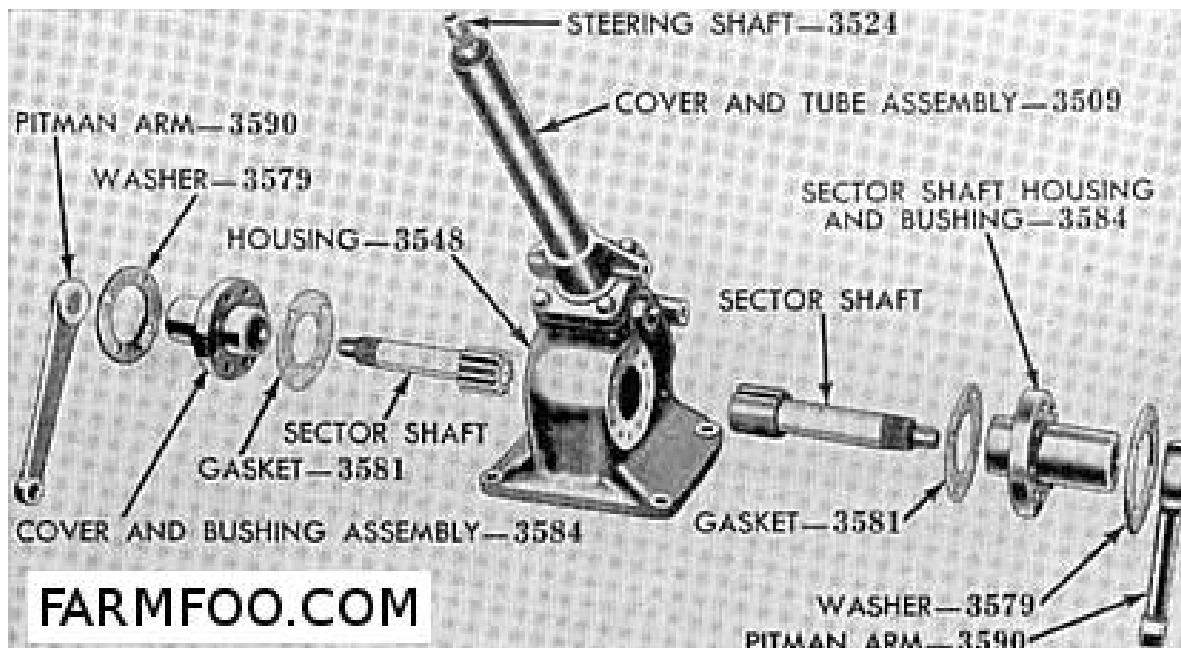

Fig. F08 - Disassembled sector shafts of ball nut gear used on model 8N tractors prior to serial 216989. Later type is shown in Fig. F012.
nut. Refer to Fig. F08. The right sector rotates in the opposite direction. On tractors after serial 216988 the arrangement is reversed as shown in Fig. F012A, the right sector being meshed with the ball nut, and because the sector teeth are of the bevel type a different method of backlash adjustment is employed.
8. SECTOR MESH ADJUSTMENT. Remove four cap screws from left (viewed from rear of tractor) sector shaft cover Fig. F08. Rotate cover and metal gasket counter-clockwise (viewed from left side of tractor) as far as possible by hand and reinstall cap screws in four matching holes. Recheck backlash and if none is present, proceed to adjust right sector in a similar manner, rotating right sector shaft cover clockwise to remove backlash instead of counter-clockwise. IF BOTH SECTOR ARMS NOW HAVE ZERO BACKLASH, STEERING GEAR UNIT IS COMPLETELY ADJUSTED AND WORM SHAFT END PLAY ADJUSTMENT OUTLINED IN PARAGRAPH 9 WILL NOT BE REQUIRED.
gears and covers from sides of gear case – Fig. F08. To facilitate removal of these sub assemblies, turn them clockwise and they are withdrawn. Remove shaft tube flange cap screws and lift assembly off of gear case. CAUTION: Do not turn worm shaft if nut is near either end of worm as ball retainers may be damaged.
11A. Pull both steering gear arms off sector shafts and unscrew cap screws holding sector shaft housings to gear case. Remove both sector gears and covers from sides of gear case – Fig. F08. To facilitate removal of these sub assemblies, turn them clockwise and they are withdrawn. Remove shaft tube flange cap screws and lift assembly off of gear case. CAUTION: Do not turn worm shaft if nut is near either end of worm as ball retainers may be damaged.